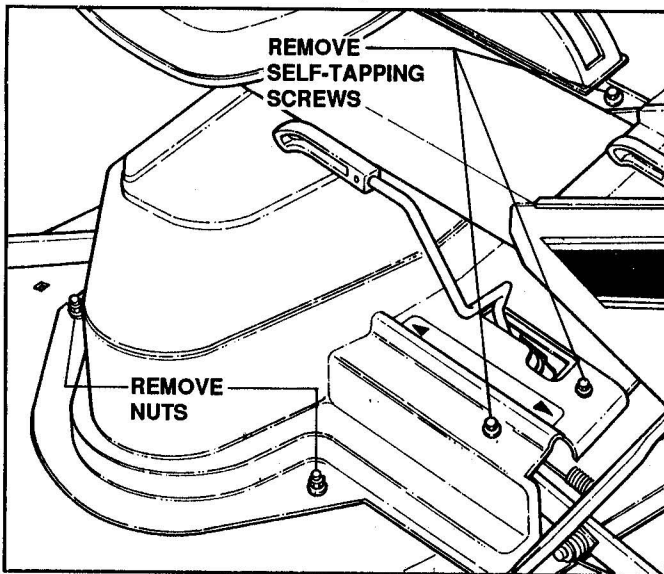

FIGURE 3.3
- Lift belt cover up to clear studs and then remove. See Figure 3.3.